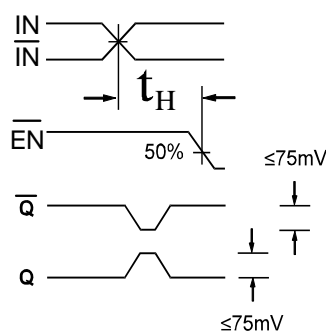

Figure 2. Hold Time
- The hold time is the minimum time that EN must remain asserted after a negative going IN or a positive going IN to prevent an output response greater than $\pm 75\text{mV}$ to that IN/IN transition (see Figure 2).